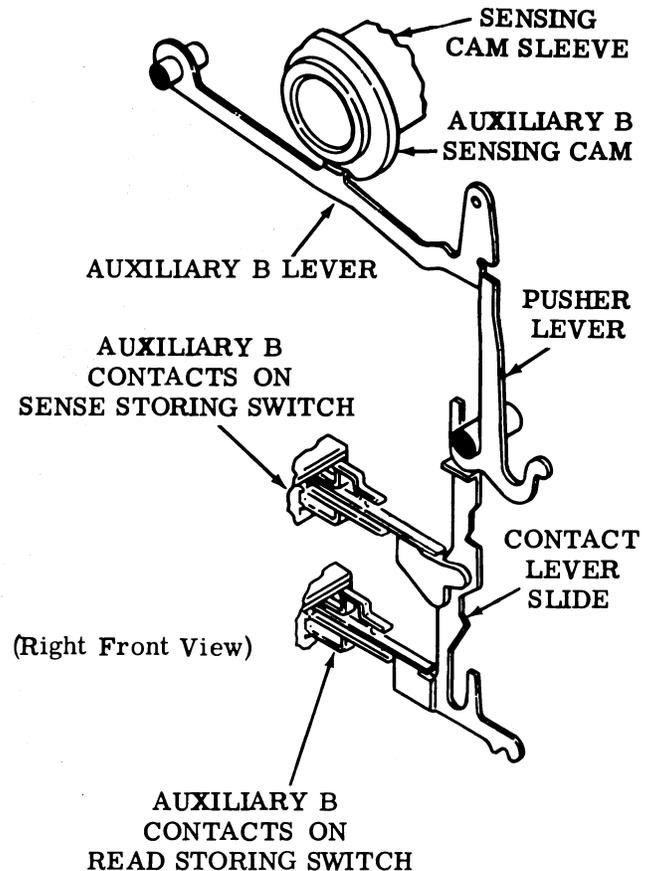

Figure 14 - Auxiliary B Contact Actuator
6.04 The distributor clutch trip magnet is controlled by the auxiliary B contact actuator mechanism (Figure 14) which depends on the rotation of the sensing cam sleeve.
7.04 After approximately 43 degrees of sensing cam sleeve rotation, the clutch reset cam disengages the clutch trip lever (Part 6). After approximately 133 degrees of sensing cam sleeve rotation, the auxiliary B contact (on the sense storing switch) is actuated by the auxiliary B contact actuator (Figure 14).